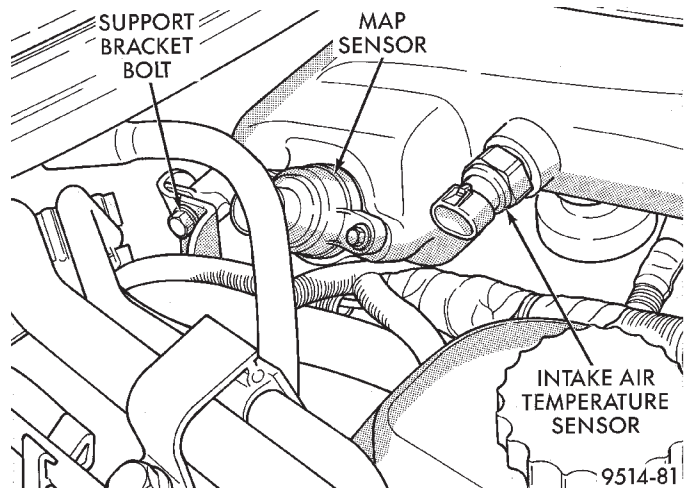

Fig. 29 Intake Manifold Plenum Sensors and Left Plenum Support Bolt
(3) Disconnect fuel supply tube from rail. Refer to Quick-Connect Fittings in the Fuel Delivery section of this group.
(4) Unplug connectors from MAP and intake air temperature sensors (Fig. 29).
(5) Remove plenum support bracket bolt located rearward of MAP sensor (Fig. 29).
(6) Remove bolt holding air inlet resonator to intake plenum.
(7) Loosen throttle body air inlet hose clamp.
(8) Release snaps holding air cleaner housing cover to housing.
(9) Remove air cleaner cover and inlet hoses from engine.